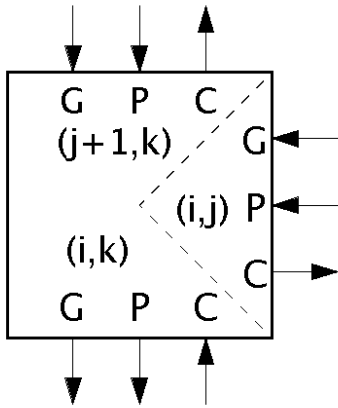
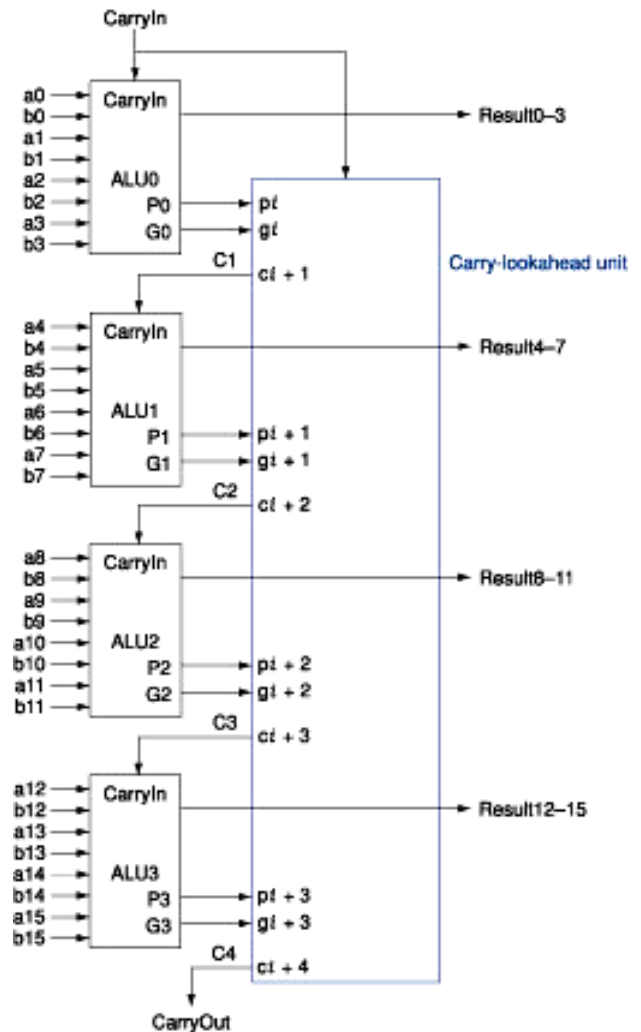
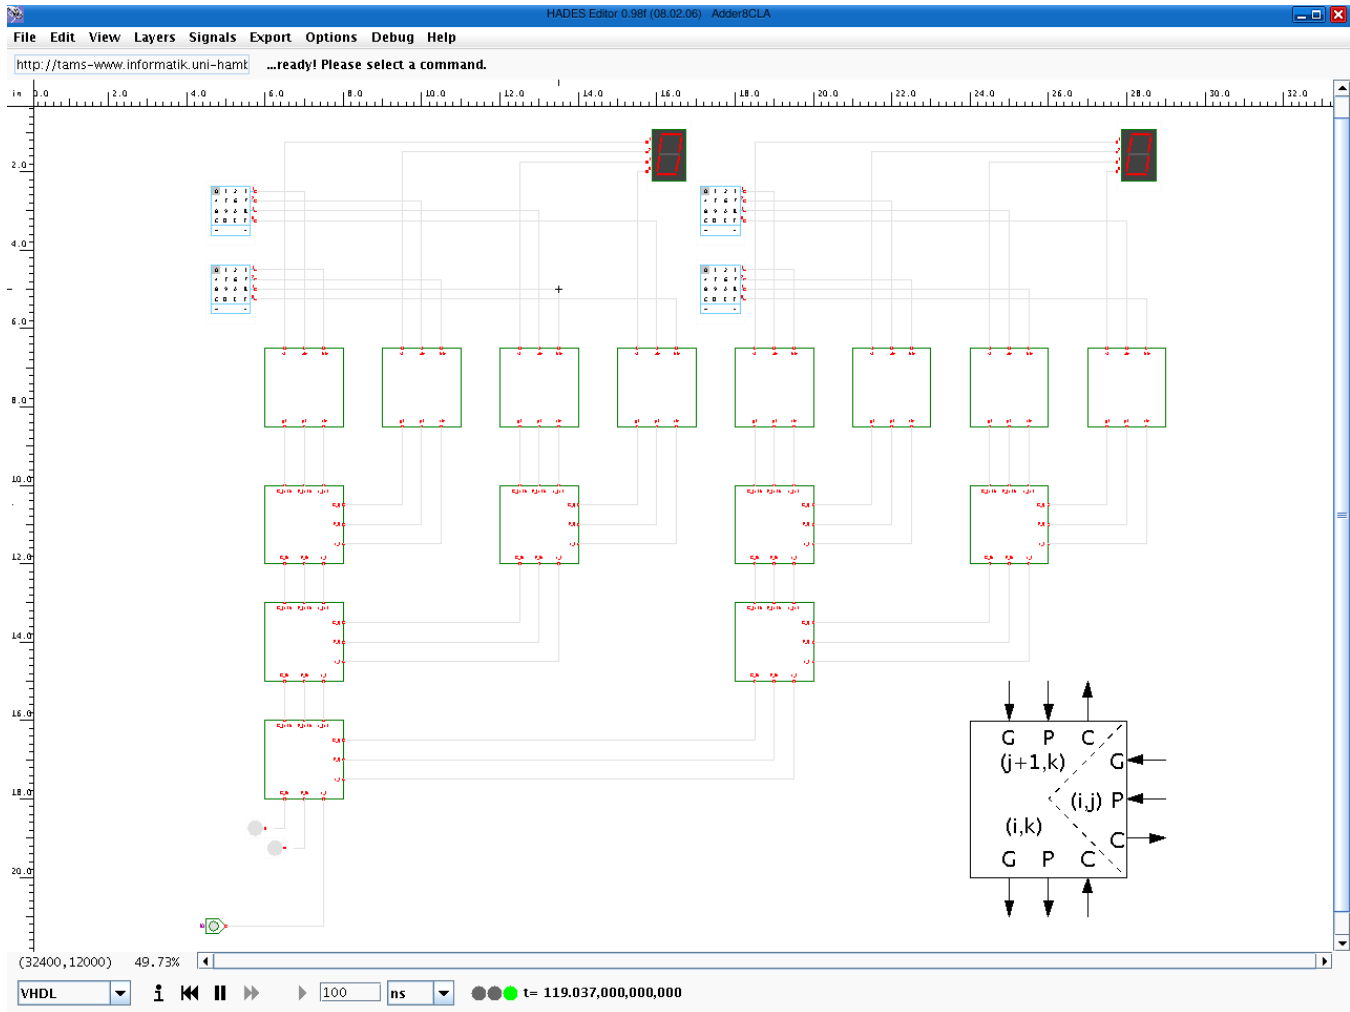

Figure 2: Detail of Hades CLA block ports.
Figure 1: 32-bit carry-lookahead adder (CLA), from Fig. B.6.3 of our textbook.
Figure 3: Hades carry-lookahead adder (8 bit) applet.
**Part I: 8-bit ALU with Carry-Lookahead Adder (CLA).** For this project, you need to modify/update your 8-bit ALU with ripple-carry adder and convert it into an 8-bit ALU with carry-lookahead adder. Instead of relying on Figure B.6.3 of our textbook (reproduced in Figure 1), you may refer to the Hades carry-lookahead adder (8-bit) demonstration applet1 which is organized as shown in Figure 3. You may want to organize your CLA unit similarly into several CLA blocks.
The Hades 8-bit CLA adder (see Figure 3) consists of 8 1-bit adder blocks and a tree of (4+2+1) CLA blocks. To facilitate connections between CLA blocks, you may wish to refer to Figure 2. The advantage of the CLA scheme used in this circuit is its simplicity, because each CLA block calculates the generate and propagate signals for two bits only. This is much easier to understand than the more complex variants present-
So, you need to decide how you want to design your CLA circuit – either as a single CLA block as in Figure 1 or as multiple CLA blocks as in Figure 3. Store your CLA block design under the filename `cla.hds` and have Hades generate a symbol for your subdesign. Next, integrate your CLA block(s) with your 1-bit ALU designs from Hades Lab #1 to build an 8-bit ALU with CLA2. Save your 8-bit ALU design under the filename `alu8cla.hds` and have Hades generate a symbol for your subdesign. Edit the Hades-generated symbol for your 8-bit ALU so that it looks more like the traditional “vee”-like block used to represent ALUs. Use *Hex Switch* and *Hex Display* units to provide input operands to your ALU and *Hex Display* units to display the output of your ALU. Be sure to position your *Hex Switches* and *Hex Displays* using the most logical arrangement possible. Also use *Label* units to provide/convey as much information about your design as possible. Use the filename `_alu8cla.hds` to save your test circuit under.